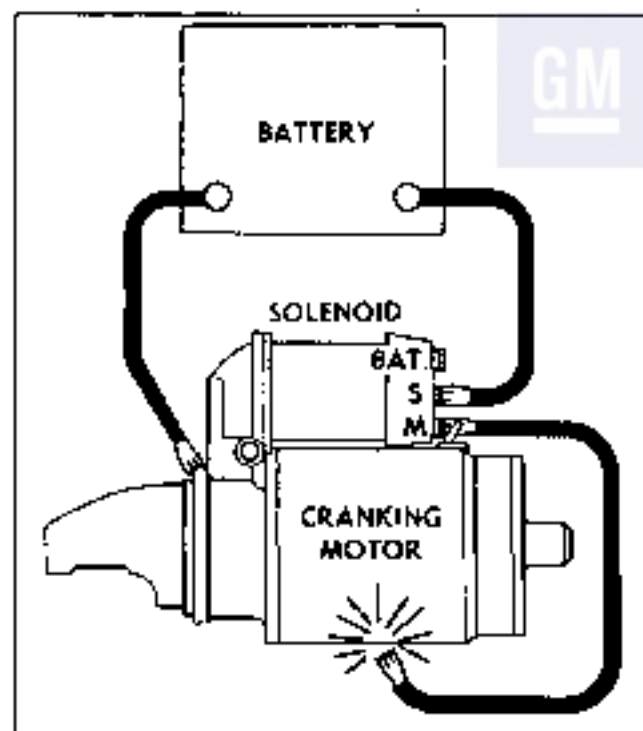

Fig. 6E-9 Circuit For Checking Pinion Clearance
2. Connect one battery lead to the solenoid switch terminal and the other to the solenoid frame (Fig. 6E-9).